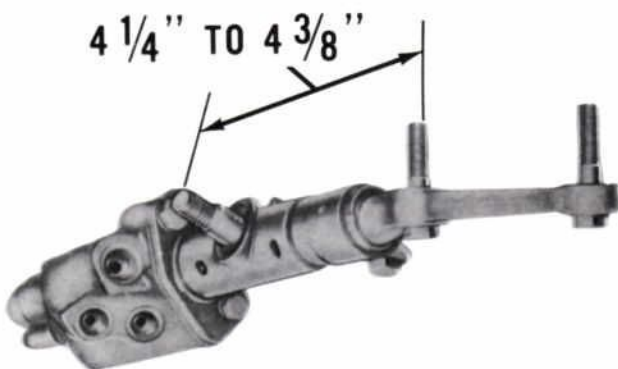

Figure 14—Control Valve Length Adjustment
1. Place the stud in a straight-vertical position. Measure from the center of the stud parallel to the bolt mounting surface to the center of the first bolt hole. The distance should be within the specified limits ($4\frac{1}{4}$ "- $4\frac{3}{8}$ ") as shown in Figure 14. If not within these limits, adjust the length as required.